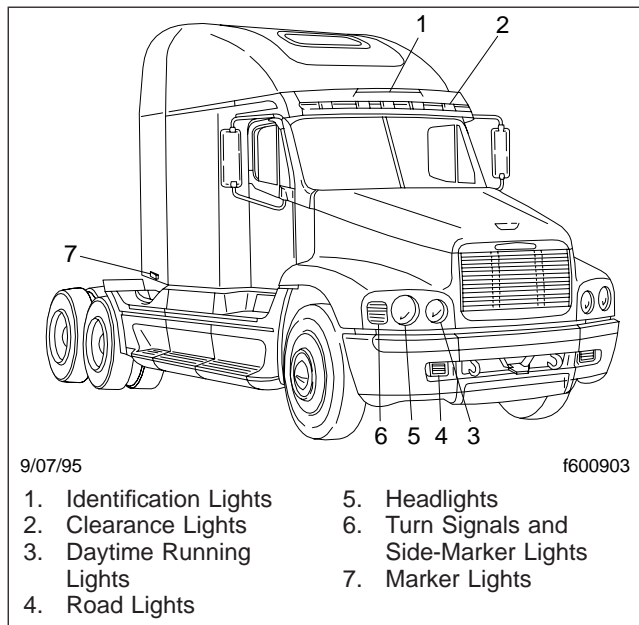

Fig. 11.8, Exterior Lights
11. Check the operation of all exterior lights. See **Fig. 11.8**.